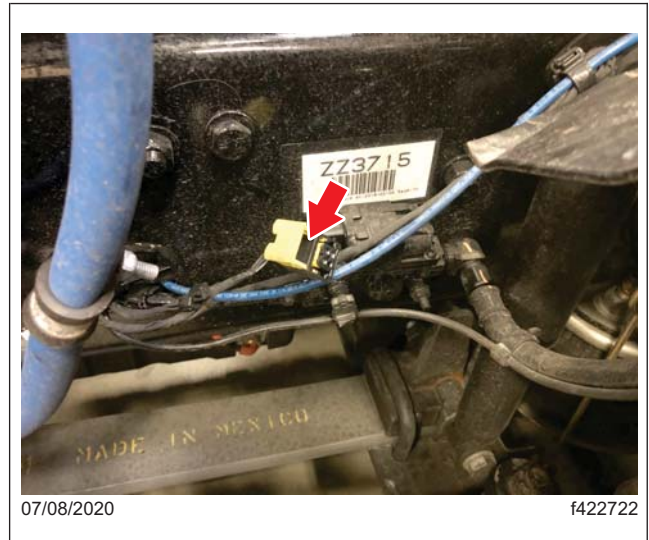

Fig. 3, Location of the Electrical Connector
2. Use the flat end of a screwdriver to disconnect the modulator valve electrical connector located on the front side of the frame rail, above the front axle. See Fig. 3.